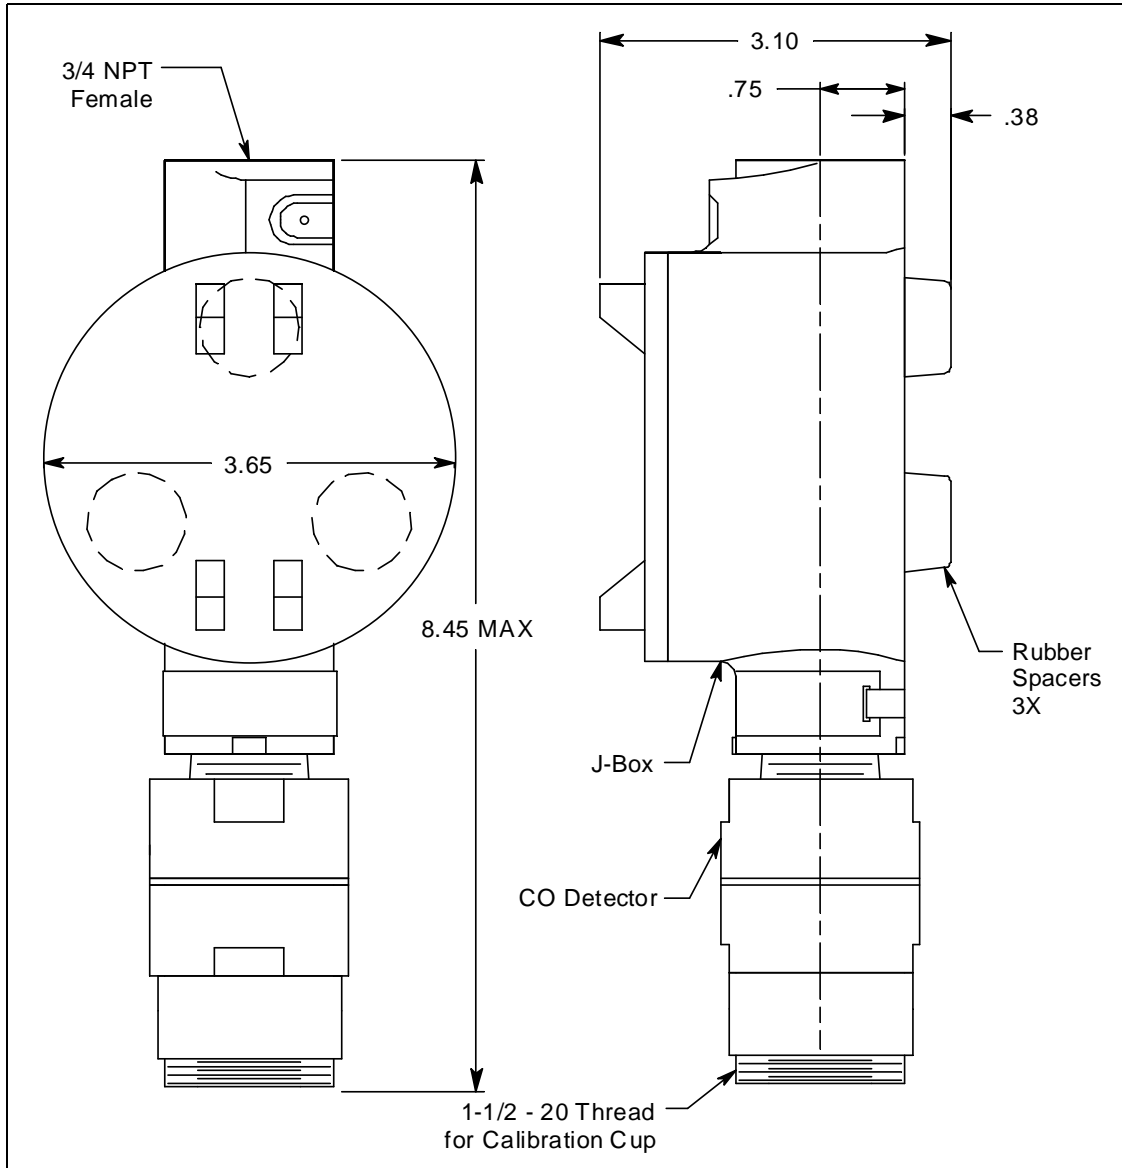

Figure 3: Outline & Mounting Dimensions
2. At the monitoring site you select, hang or mount the junction box with the detector facing down (see Figure 3).